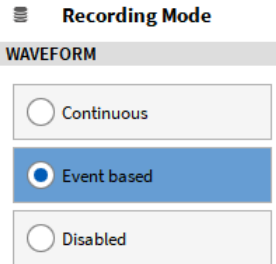

Figure 7-20: Event based waveform Recording selection
- Select *Event based Waveform Recording* as Recording Mode (see Figure 7-20):